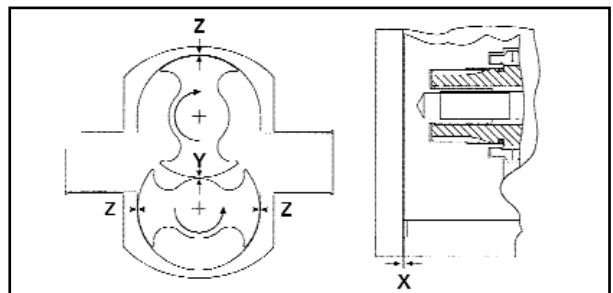

Figure 18 - Shim / Clearance Measuring
Hy~Line and Ultima pumps have very small, carefully controlled clearances between rotors and rotor case - see Performance Data Sheet for specific details. If the end clearances are incorrect they can be adjusted. The other clearances- rotor to rotor (Y) and rotor tip to rotorcase bore (Z) factory set and cannot be adjusted. See figure 18.
- a) With the pump assembled, the end cover (122) removed and the rotors (56 & 57) and rotorcase (1) fully secured to the correct torques. Measure the rotor front end clearances (X) using a depth gauge or feeler gauge and straight edge.
- b) If the clearance is incorrect, remove the rotors (56 & 57) see section 6.02. Remove the O rings (31) and shims (30), the shims are cut to allow them to slide over the shaft. Tri-bolt shaft shims are uncut.
- d) Measure the thickness of the shim pack for each shaft and calculate the thickness of shim to add or remove on each shaft to give the front clearance specified in the Performance Data Sheet. Shims are available in increments of 0.025 mm (0.001 inch). (See Figure 18).